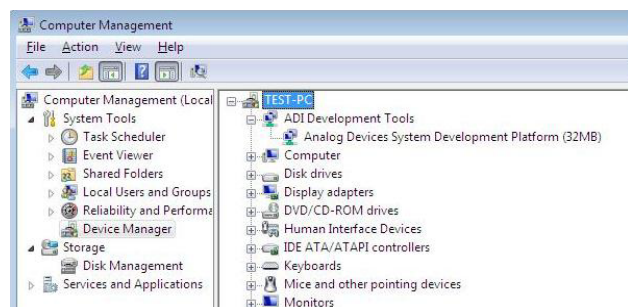

Figure 13. Device Manager: Checking That the Board Is Connected to the PC Correctly
- iii. The **Computer Management** box appears. Click **Device Manager** from the list of **System Tools** (see Figure 13).